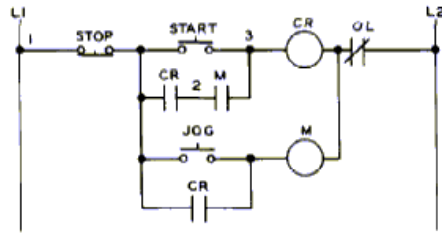

Fig. 25 Jogging with Control Relay.
13. Jogging: Control Relay (Fig.25)